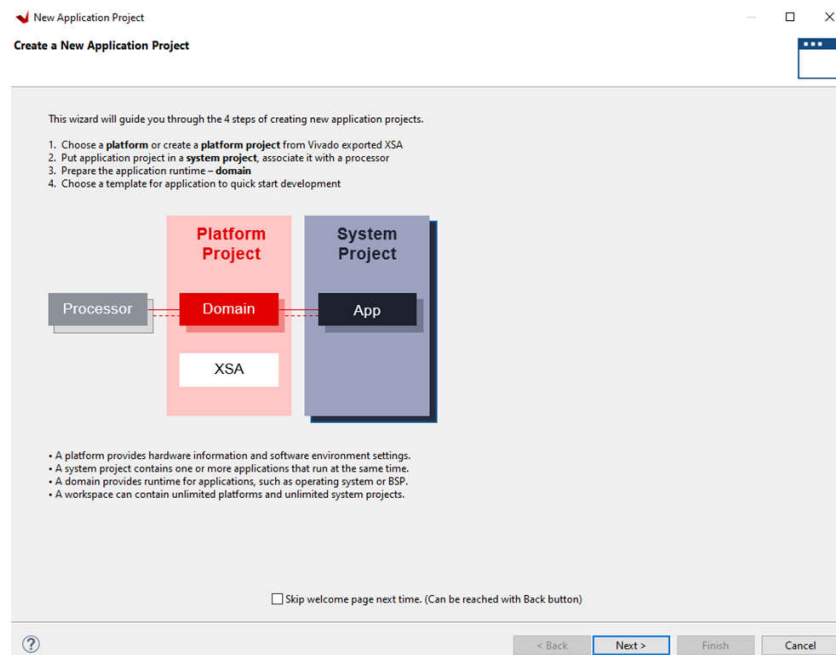

Figure 7-2. New Application Project
2. When the *New Application Project* window appears (see Figure 7-2), click *Next*.